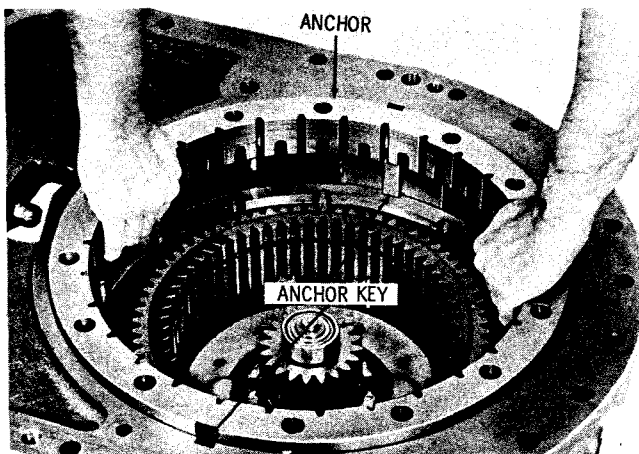

Fig. 7-19. Installing low-range clutch anchor
(3) Install, flat side upward, the low-range clutch anchor, alining the keyways in the anchor with the anchor keys (fig. 7-19).